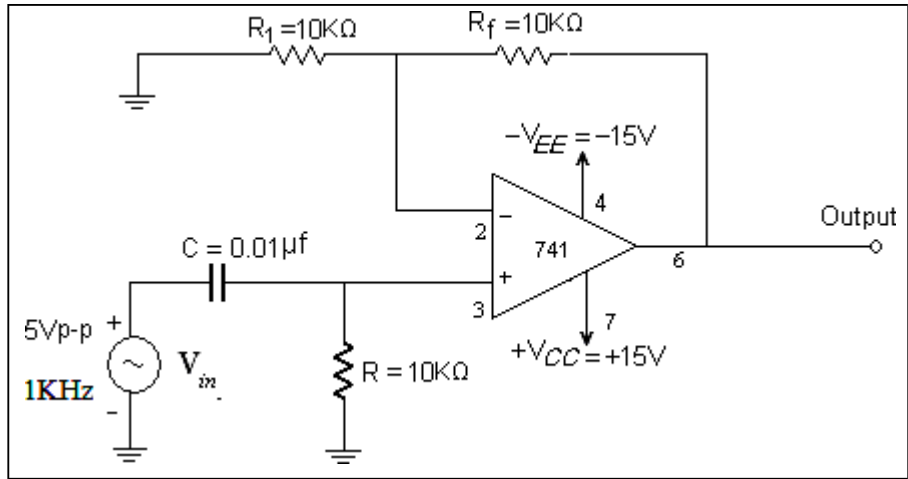

Fig 2 First Order High Pass Filter Circuit
1. Connections are made as per the circuit diagrams shown in Fig 2.